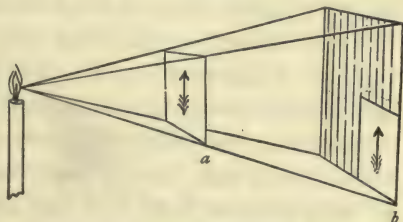

FIG. 111. — A photograph at *a* receives four times as much light as when held at *b*.
**Fading illumination.** — The farther we move from a light, the less strong, or intense, is the illumination which reaches us; the light of the street lamp on the corner fades and becomes dim before the middle of the block is reached, so that we look eagerly for the next lamp. The light diminishes in brightness much more rapidly than we realize, as the following simple experiment will show. Let a single candle (Fig. 111) serve as our light, and at a distance of one foot from the candle place a photograph. In this position the photograph receives a definite amount of light from the candle and has a certain brightness.